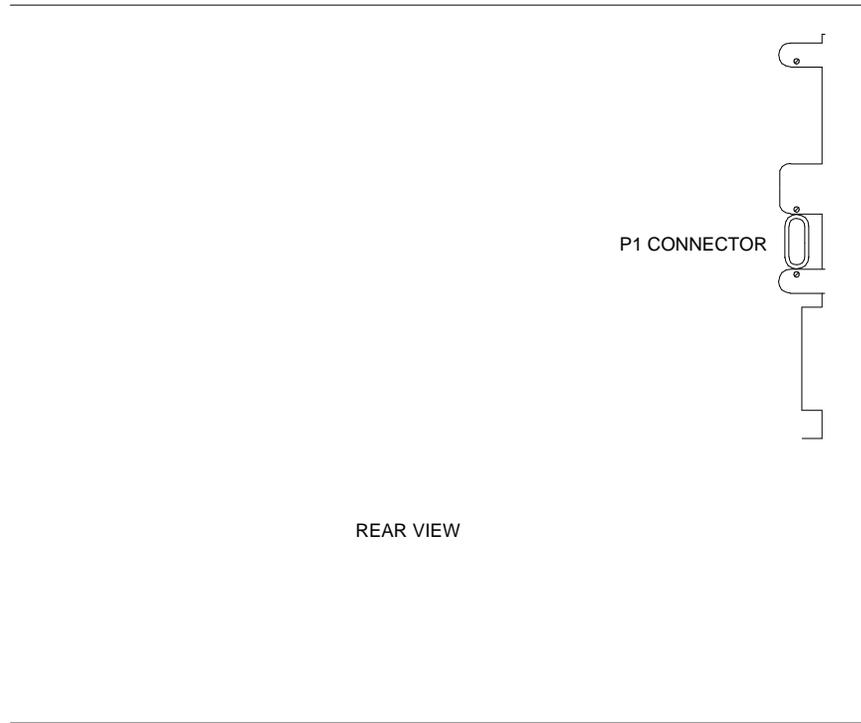

Figure 4-12. Location of P1 Connector
6. Disconnect the "P1" (small 9-pin) connector from the "B" carrier (See Figure 4-12). Move the cable into a position where it will not interfere with removing the carrier.
4. Connect the "P1" (small) connector to the "B" carrier (See Figure 4-12). If necessary, to get enough slack in the cables, cut the tie wrap holding the intercabinet cable from the upright in the area being installed. Snap the connector lock into place to ensure the connection is properly made.